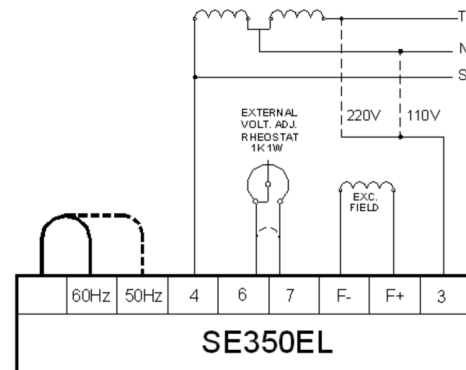

Figure 6 - 1Ø 110 / 220VAC Diagram
- See Figure 6, 7 and 8 for connection diagrams.
$\pm 5\%$ voltage range, use a 1000 ohm 1/2 watt rheostat). See Figure 6, 7 and 8.